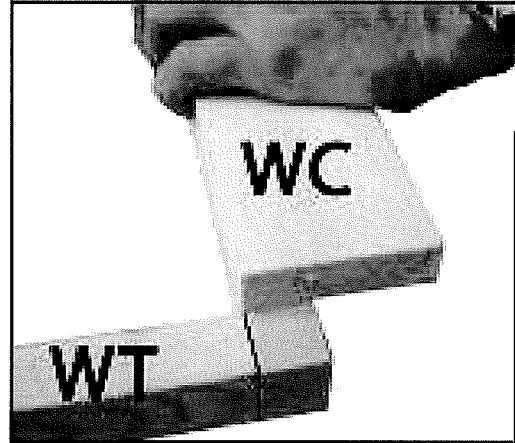

Fig A3
11. Place one of the **WC** parts on top of the **WA** part level with the inside of the frame and the bottom of the **WT** part (fig A3).